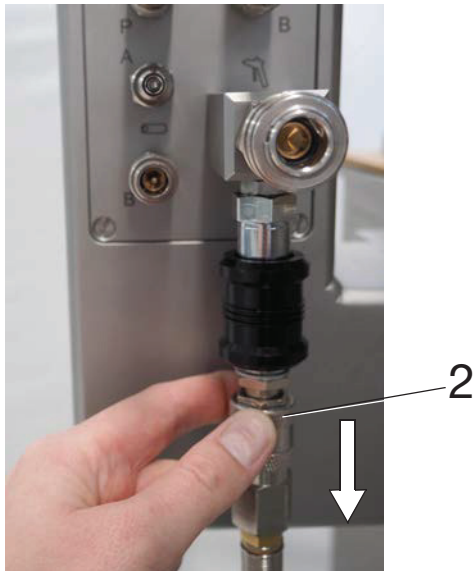

Fig. 7-3 2 Ring on the air release valve
- Push and hold the compressed air hose in the direction of flow while pushing the ring on the air release valve (2, Fig. 7-3) against the direction of flow and remove the hose.